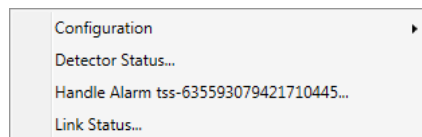

Figure 3-49 – TSS Link / IDS Alarm Context Menu
- **TSS Link / IDS Alarm Context Menu** (see Figure 3-49): The TSS Link context menu allows the operator to view the status of the detector or view the status of the link (see Figure 3-144). In addition to the capability provided by other device context menus, this context menu provides the operator with a shortcut to handle an alarm from a TSS link, VisioPaD camera, or other alarm source.